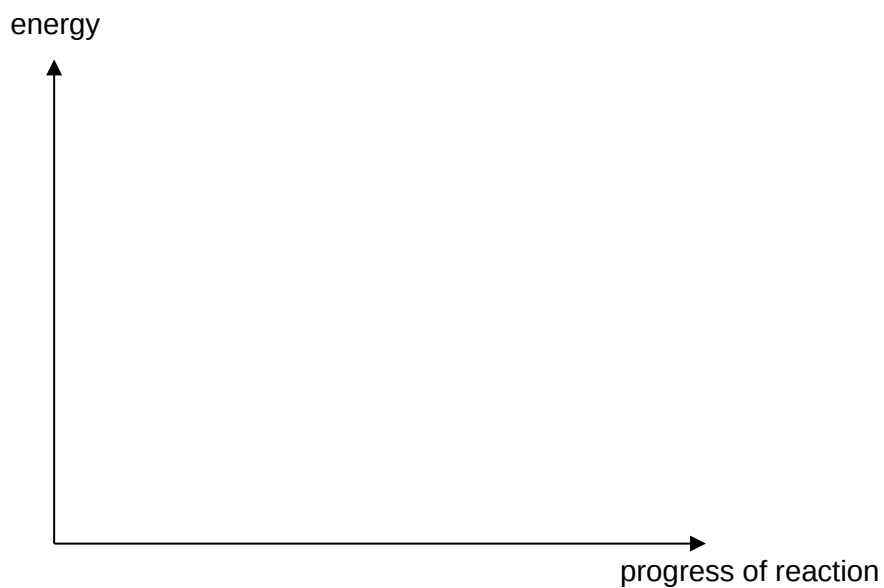

Fig. 6.4
- (ii) In Fig. 6.4, draw an energy profile diagram for the reaction between hydrazine and iodine.